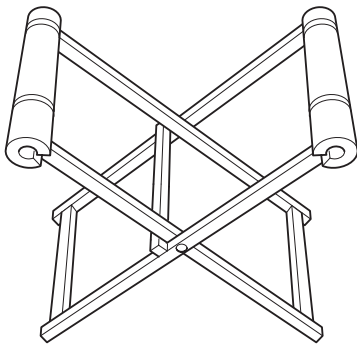

Fig 11. Glass Stand
- 2 After checking for size, remove the new glass and place it on a purpose made glass stand. → Fig 11. (□ B-24).